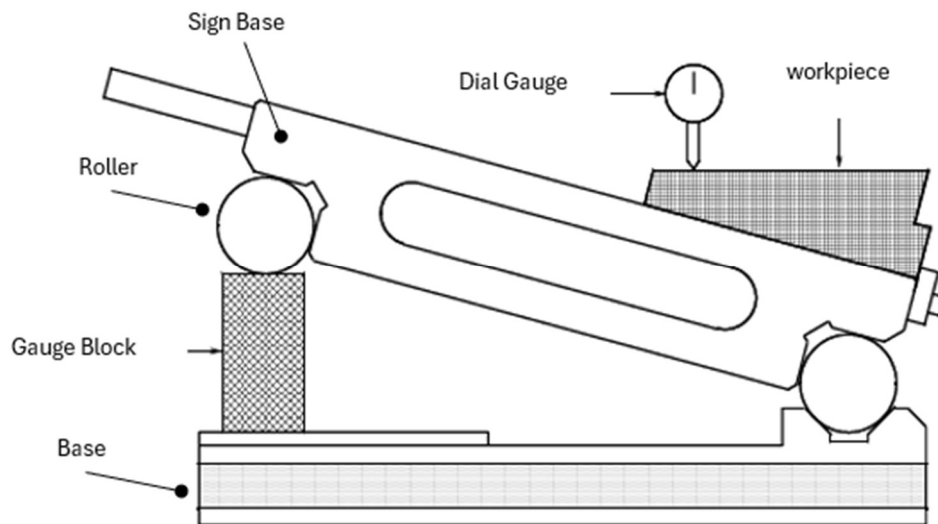

Figure 1
- ① Wipe the sine base, rollers, base, and the workpiece clean, and place them on the reference surface plate.
- ② Attach the gauge blocks by wringing them together to the required angle dimension.
- ③ Wipe the workpiece clean and mount it on the upper surface of the sine base, using stoppers if necessary.
- ④ Lift the sine base and place the gauge blocks under the rollers as shown in Figure 1.